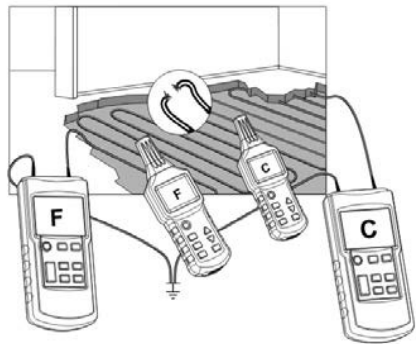

Fig. 13b
- Connect the two transmitters (if two transmitters are used) as shown in Fig. 13b.